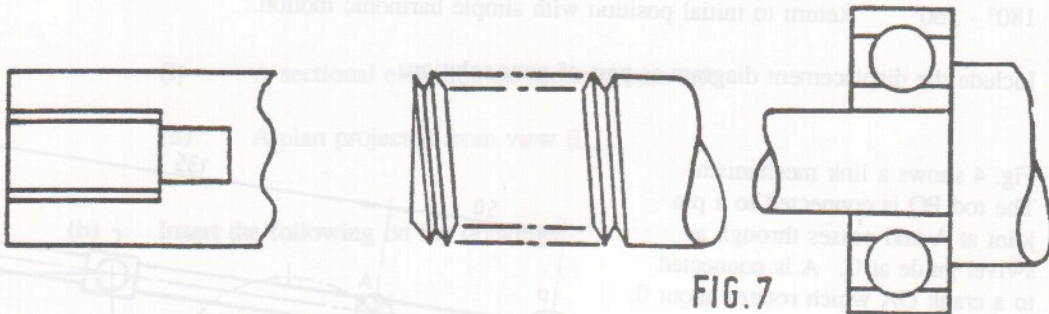

FIG. 7
- (c) Fig. 7 shows a representation of common features which are not drawn in accordance with BS 308. Redraw each item according to BS 308 standards and include a title for each.